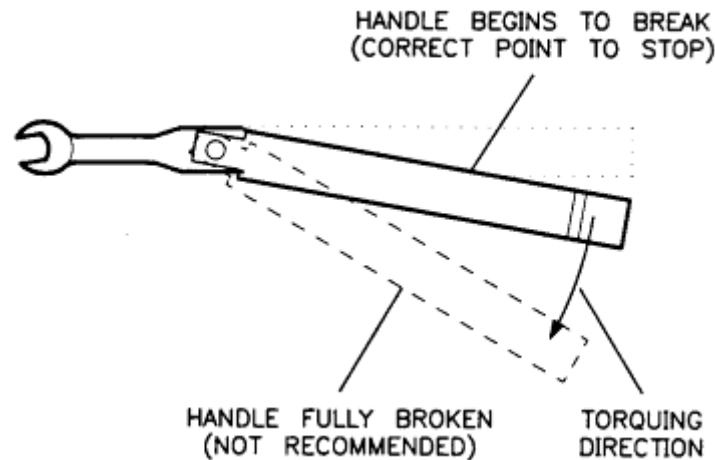

Figure 1. Using the Torque Wrench
- Hold the torque wrench with your thumb and index finger, behind the groove in the handle (see **Figure 1**).